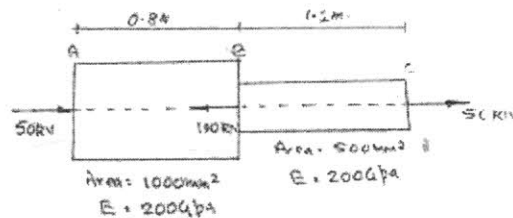

Figure 1 (c)
- c) Different portions of a stepped bar are subjected to forces as shown in Figure 1 (c). Determine stresses induced in each portion and net deformation of the bar if the modulus of elasticity of the material is $2 \times 10^5 \text{ N/mm}^2$.